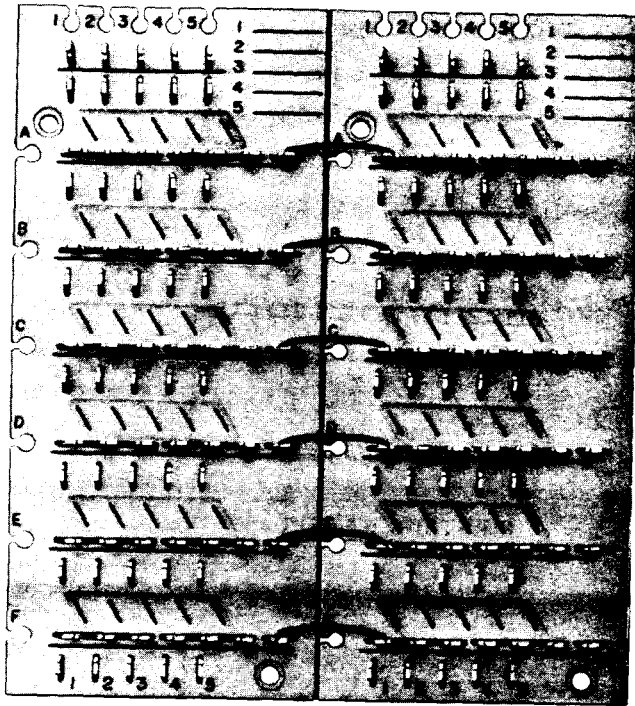

Fig. 3—Modular Array (Multiplied Horizontally)
right side (clip) serves as a multiplying point for extending the horizontal capacity (Fig. 3, 4, and 5).
**3.01** The 1A1 Matrix Block should be mounted on a flat surface, using mounting holes provided. Where extended capacity beyond one block is necessary, modular arrays (Fig. 3, 4, and 5) may be employed. Respectively, these offer the following additional capacities: